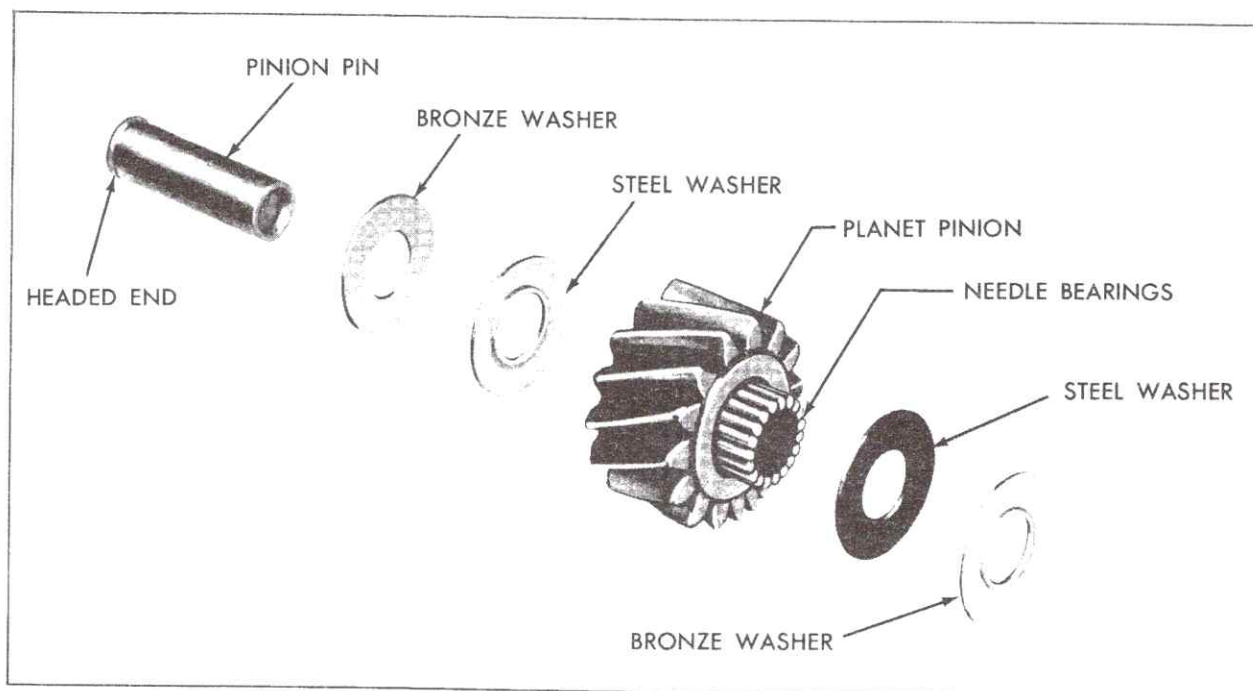

Fig. 7-81 Planet Pinion Assembly Disassembled
6. Place a bronze and steel thrust washer on each side of pinion gear with steel washers against gear, Fig. 7-81. Hold washers in place with petrolatum.